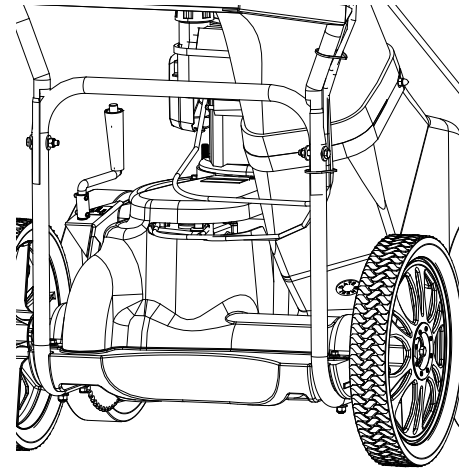

Fig. 1
*NOTE:* be sure all cables are routed on the underside of the hood and housing. (See Fig. 1)